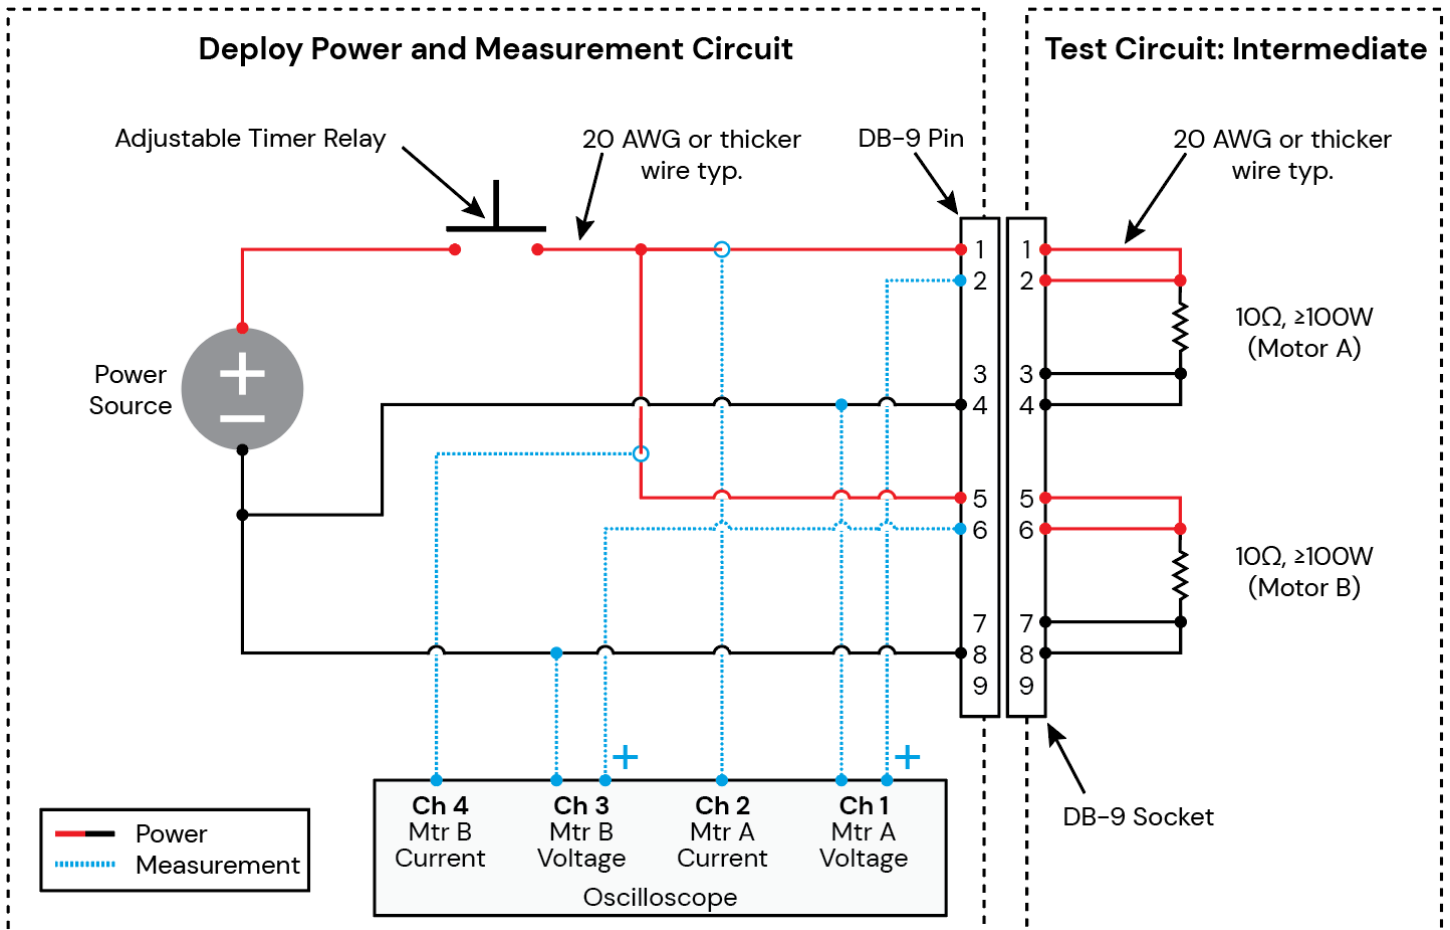

Figure 11-2: Deploy test circuit #2
11.2.1	Set up the Test Circuit: Intermediate per Figure 11-2.